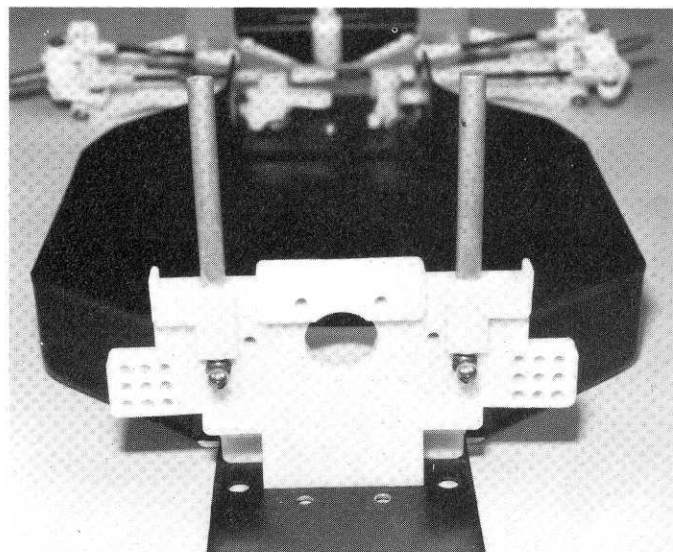

Fig. 74
□ **Fig. 74** Bulkhead installed.